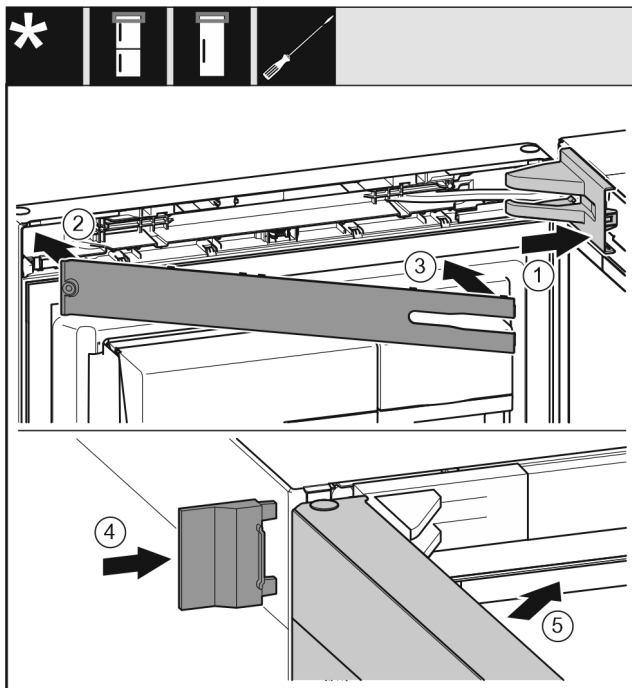

Fig. 44
- Put the swap bearing block cover Fig. 44 (1) on and engage, push apart carefully if required.
- Fit the trim Fig. 44 (2).
- Swivel in the cover Fig. 44 (3) and engage.
- Push the outer cover Fig. 44 (4) on.
- Close the upper door Fig. 44 (5).